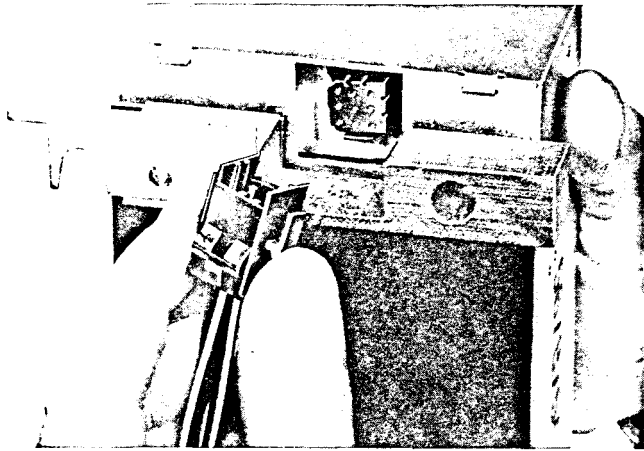

Fig. 4. Removing/Replacing Electrical Plug from a Selectrip Programmer
- c. Disconnect electrical plug and remove programmer, Figs. 4 & 5.
- a. Connect electrical programmer plug, see Figs. 4 and 5.